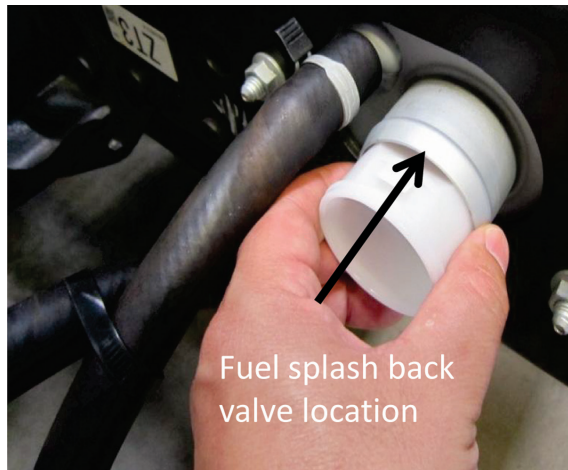
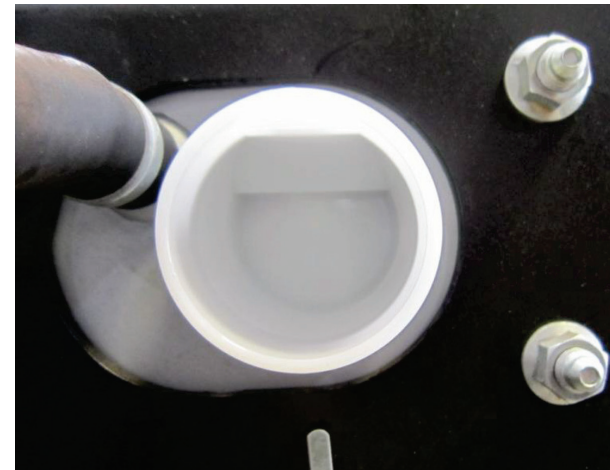

Figure 10.33.1
Figure 10.33.2
The fuel tank shutter valve (13) was a new component for 2011 model year. This component is meant to improve fuel splash-back performance of the fuel system. In the 2012 model year a running change was made and this valve (13) was relocated from the fuel tank inlet to the inlet (outboard side) of the fuel filler neck bulkhead assemble that is bolted to the left hand frame rail as shown in **Figure 10.33.1**. This plastic valve snaps into place in the inlet of the frame mounted fuel pipe. The valve should be installed so that the plastic clip is at the top of the valve, so that the flap door opens up, as shown in **Figures 10.33.2**.